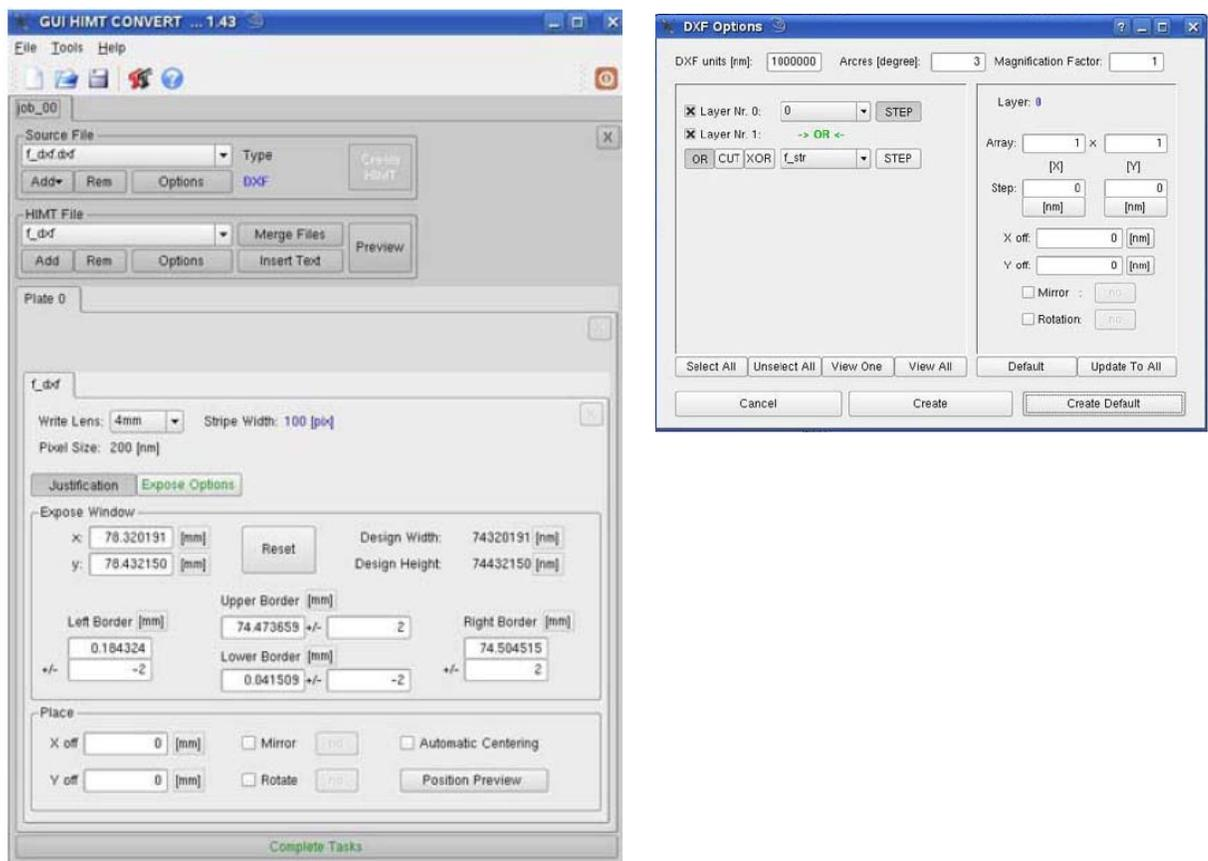

Figure 2. Convert and Options windows (Princeton University)
Figure 2 depicts the Convert and Options windows. The following steps review conversion options.
- Select STEP at the left of the Options window (see Figure 2). In the Array fields enter the integer number of patterns to be repeated in the X and Y directions. In the Step fields, enter the step size for each pattern (this number should reflect the pitch of the array, or the sum of the pattern total length and the space between patterns). Enter the X and Y offsets in nanometers (if desired) in the X off and Y off fields.
Figure 2 depicts the Convert window with the Justification tab selected. In selecting justification options, the Expose Window is for information purposes and need not be edited. It should, however, reflect a reasonably sized drawing. In the Place window, select the Automatic Centering option. This will center the pattern with the measured center of the mask. Automatic Centering is not selected in the case of aligning a pattern to a previously-exposed reference. Other options in the Place window are redundant with the conversion options and may remain at the default settings. If Boolean operations were not used, or a one layer drawing is to be converted, mirror and rotation functions should be selected now, in the Place window.